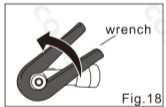

Fig.18
- 2) Unscrew the head cover with the supplied wrench then turn the wrench counter clockwise to loosen the cover, remove the cover. Remove the cartridge (Fig.18).